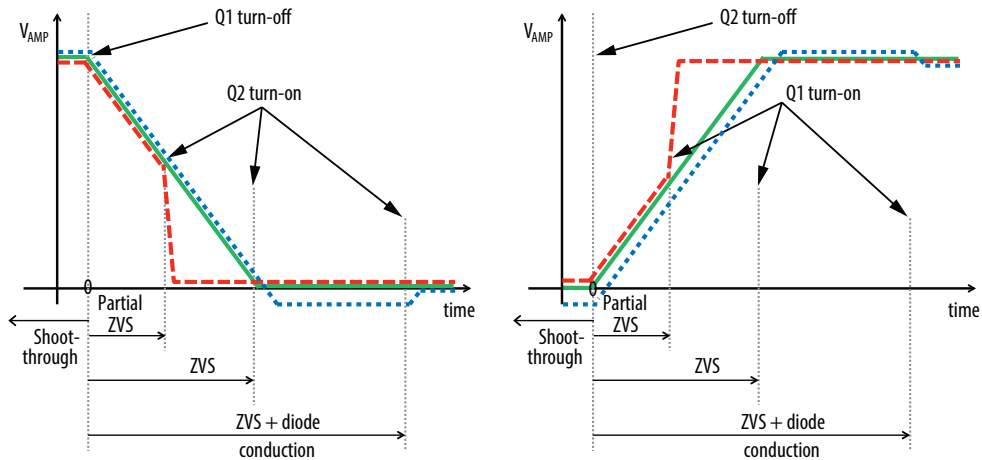

Figure 10: ZVS timing diagrams.
Setting the correct time to establish ZVS transitions is critical to achieving high efficiency with the EPC9509 amplifier. This can be done by selecting the values for R71 and R72 or P71 and P72 respectively. This procedure is best performed using a potentiometer installed at the appropriate locations that is used to determine the fixed resistor values. The timing MUST initially be set WITHOUT the source coil connected to the amplifier. The timing diagrams are given in figure 10 and should be referenced when following this procedure. Only perform these steps if changes have been made to the board, as it is shipped preset. The steps are:
6. While observing the oscilloscope adjust the applicable potentiometers to achieve the green waveform of figure 10.